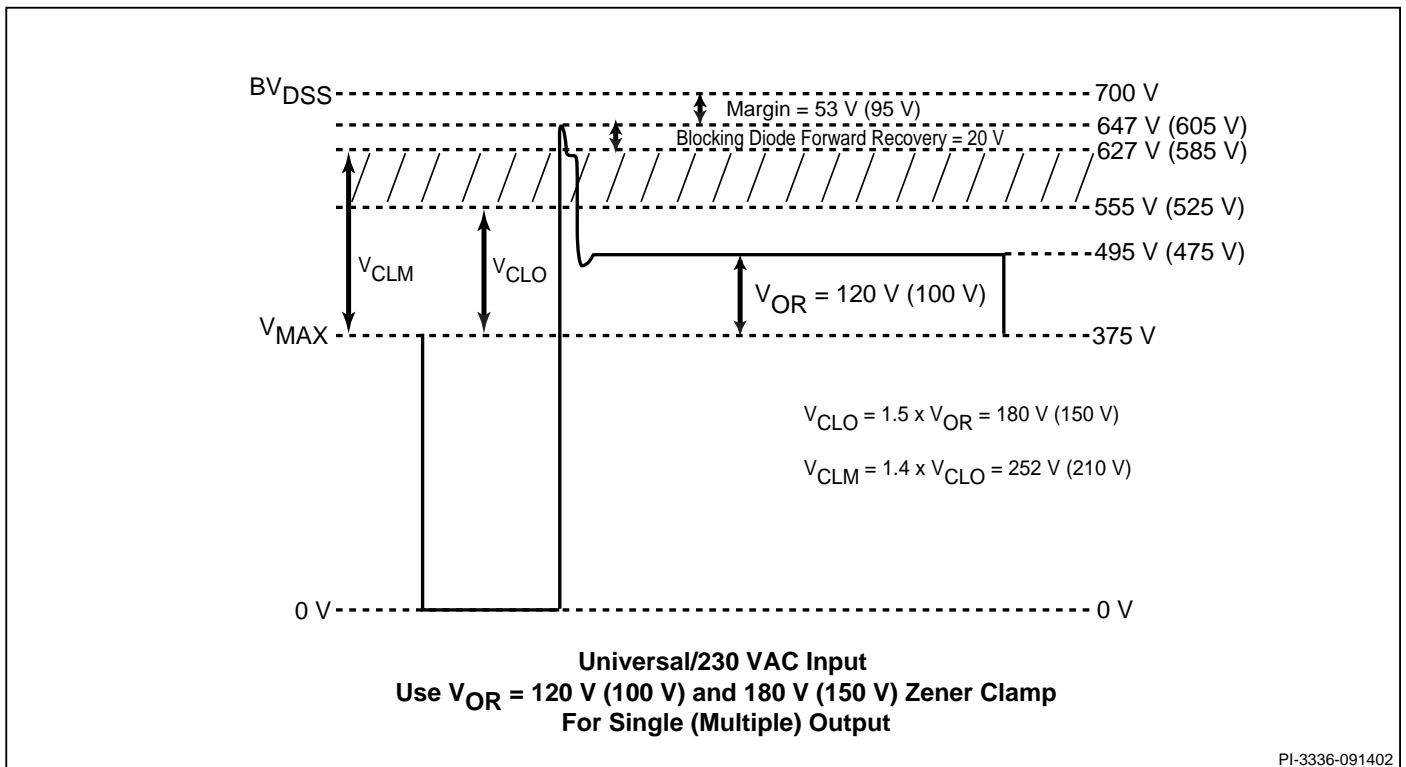

Figure 8. Reflected Voltage V_{OR} and Clamp Zener Voltage V_{CLO}
Step 4. Determine reflected output voltage V_{OR} and clamp Zener voltage V_{CLO} (Figure 8)